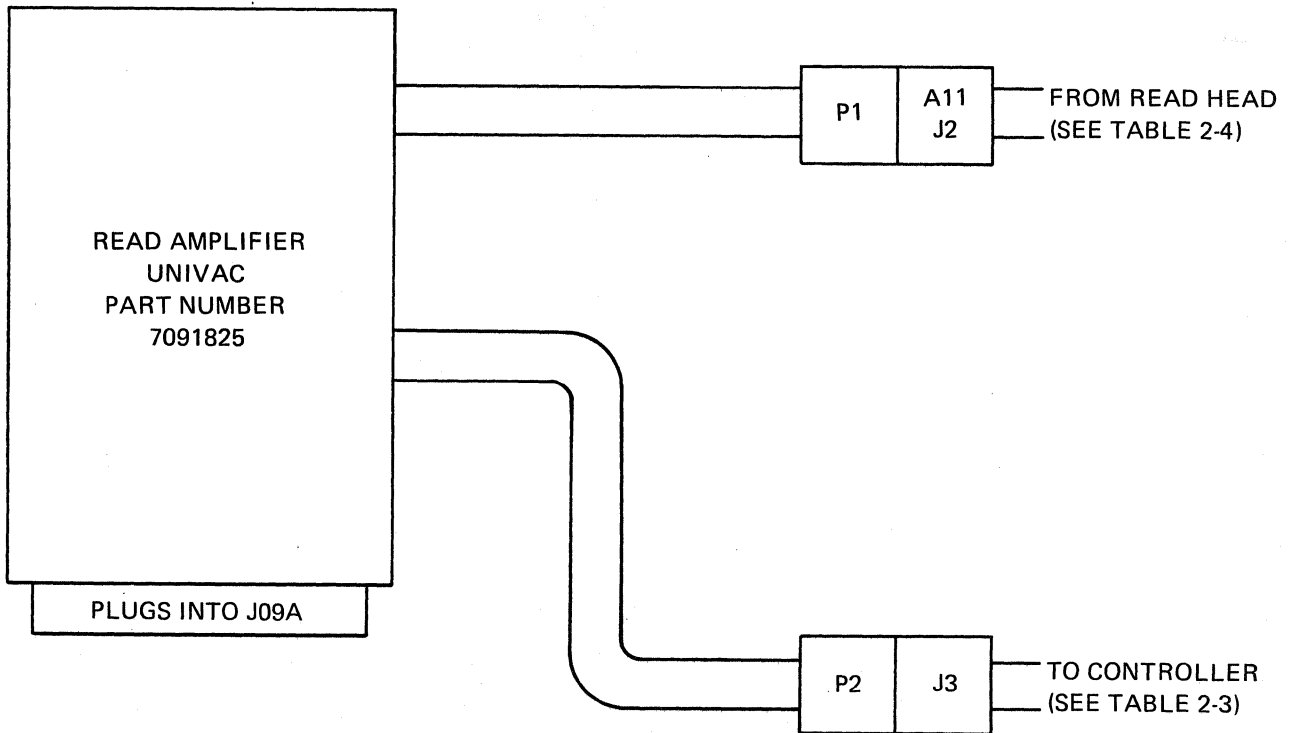

Figure 2-3. Read Amplifier Cable Destinations
The terminals designated E-XX in column 2 (TO) above are located on the read amplifier assembly located physically in card jack location J09A. These are the output signals to the controller. See figure 2-3 for the origin and destination of the signal lines and table 2-4 for the read amplifier cable pin assignments.